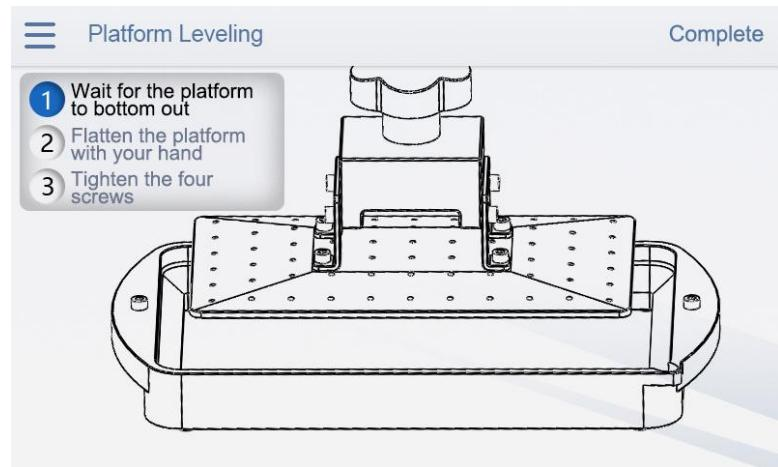

Figure 3-10
4. After completing the operation, click **【Complete】** as shown in figure 3-10 to finish the leveling process.